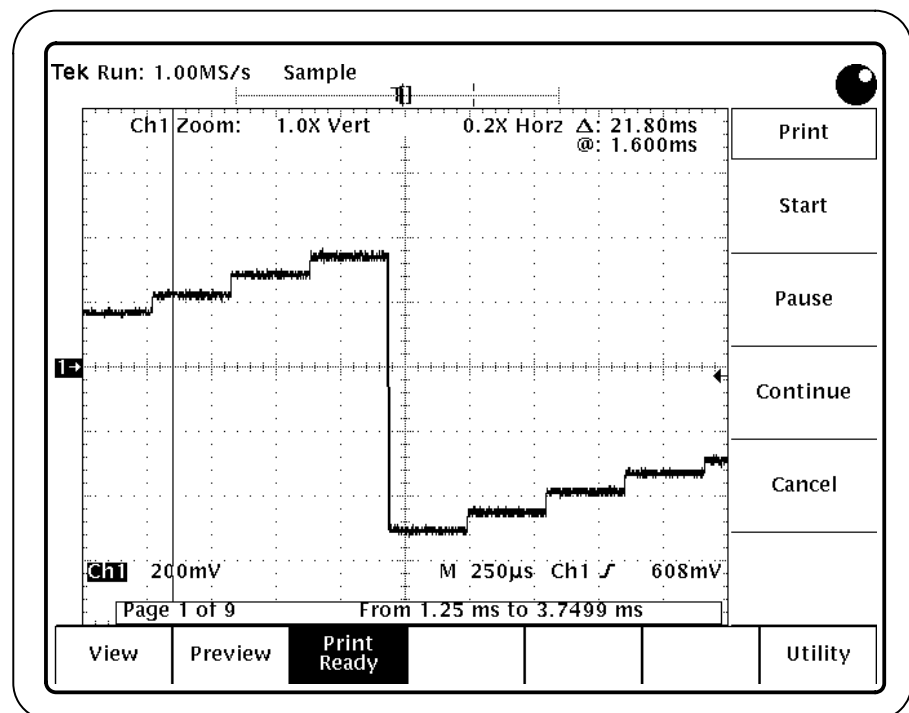

Figure 5: Print menu
1. Press Print Ready (main). Figure 5 shows the Print menu.